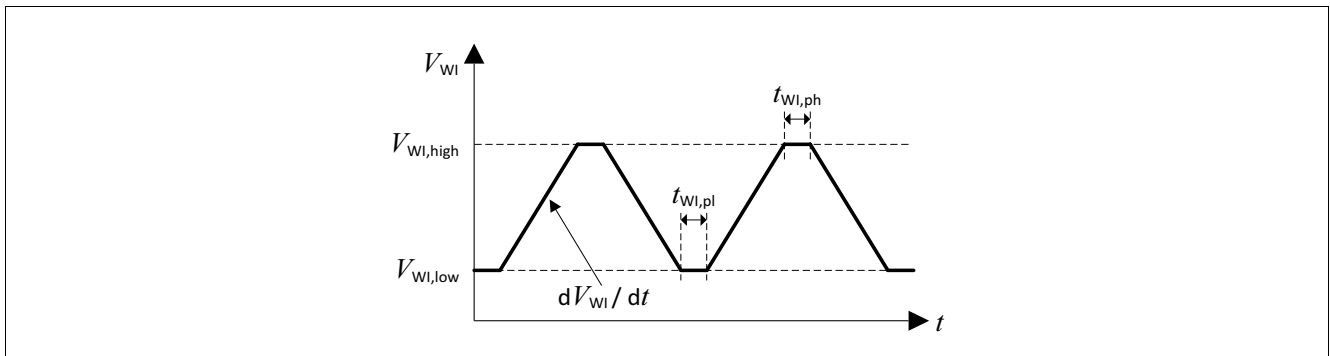

Figure 10 Test Pulses Watchdog Input WI
The watchdog is triggered by a falling edge at the watchdog input pin “WI”. The amplitude and slope of this signal has to comply with the specification (Table “Watchdog Input WI” on Page 26). For details regarding test pulses, see Figure 10 “Test Pulses Watchdog Input WI” on Page 25.
- 2) For details on applied test pulse, see Figure 10